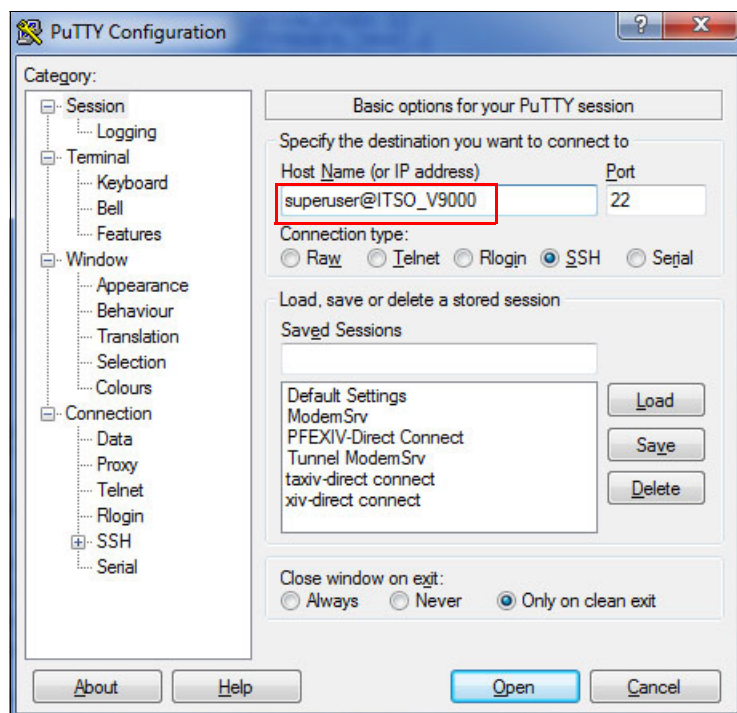

Figure 7-20 Add user name and system name to PuTTY session
1. First, open the PuTTY application and enter the following line in the Host Name (or IP address) field, as shown in Figure 7-20: